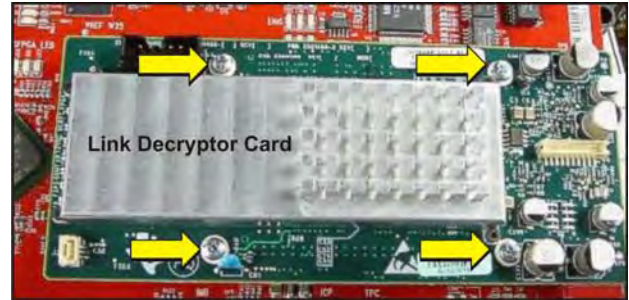

Figure 5-30 Remove Link Decrypter Card
6. Using a #1 Phillips™, remove the four screws securing the link decrypter card to the PIB (**Figure 5-30**).